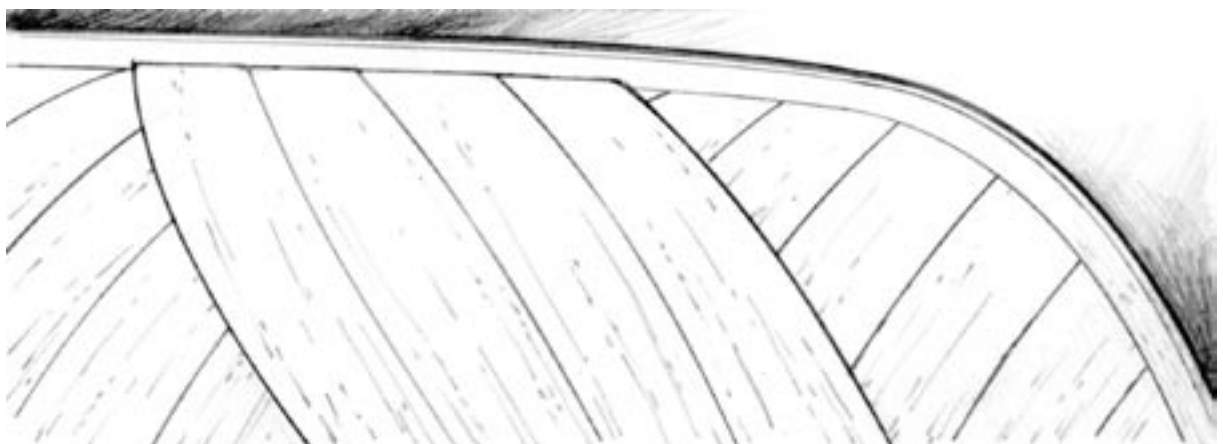

Figure 6-22 Bond the second layer of veneers in the opposite diagonal to the first layer.
5. Repeat the process on the second layer (*Figure 6-22*). Begin with the first veneer about midpoint at a 35° diagonal in the opposite direction to the first layer. Trim and bond the remaining veneers.